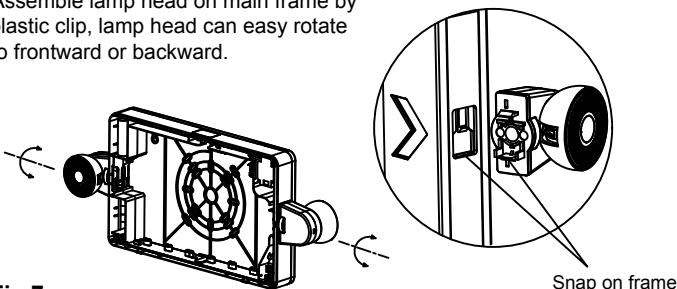

Fig 7
3. Remove side hole plug from housing, snap lamp heads on the unit and connect to PC board(see Fig 7).
5. Snap lamp heads on the unit and connect to PC board (see Fig 7).